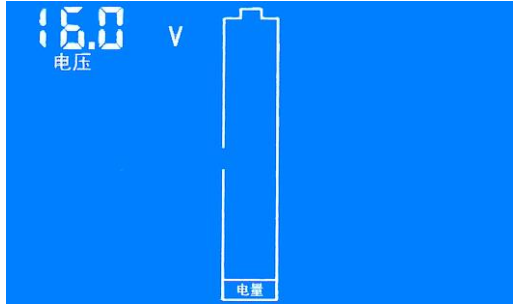

Figure 5: cut-off voltage setting interface
Step 1: After you set the full voltage, longer press the button until LCD shows the interface of Fig. 5, then release the button;